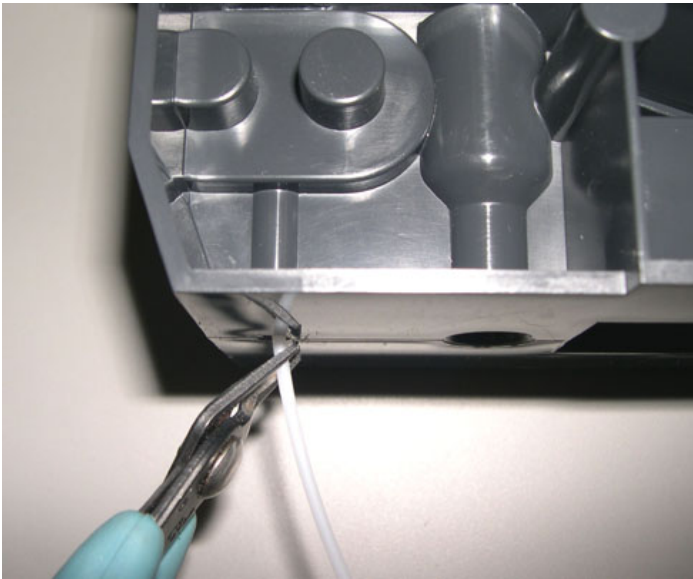

Figure 7. Snipping the material filament to 6mm (¼") length
3. With the cutter provided in your Startup Kit, snip the filament at an angle, leaving 6mm ( $\frac{1}{4}$ " ) of material protruding from the cartridge (see Figure 7 on page 26).
If the display reads `Load Failed`, press **Retry**. If load fails again, remove the cartridges, snip the material at an angle (see Figure 7 on page 26), and reinsert cartridge.